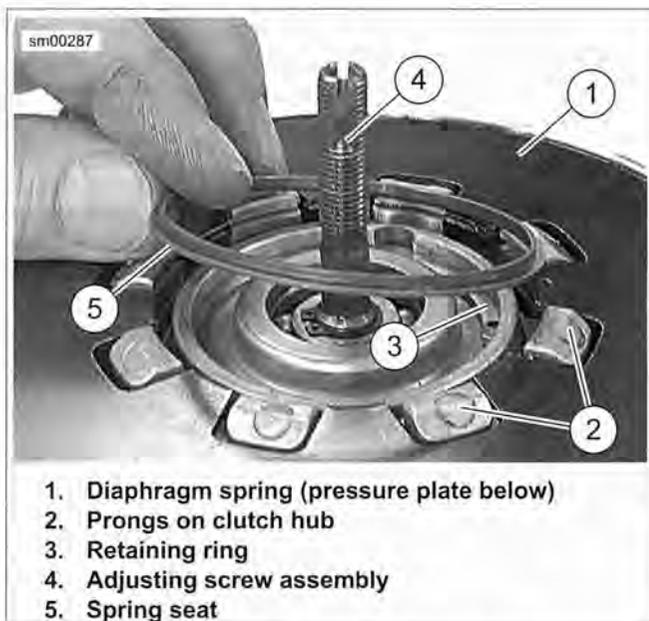

Figure 5-34. Spring Seat Installation
- a. See Figure 5-34. Align square openings of pressure plate and diaphragm spring so that the assembly can be installed over prongs on clutch hub.